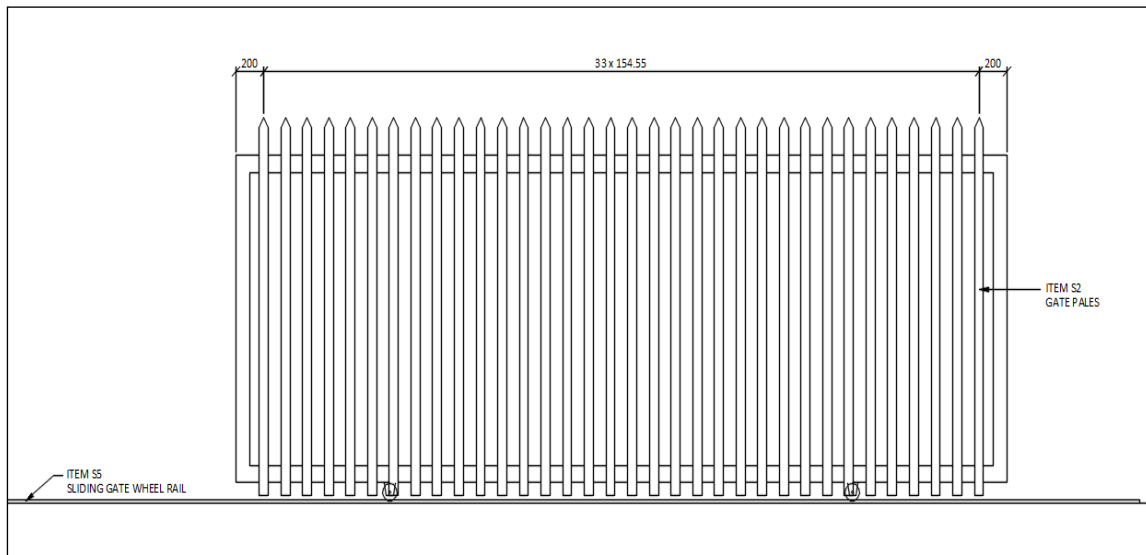

Figure 49: Typical Sliding Gate Detail
- Figure 49: Typical sliding gate detail.